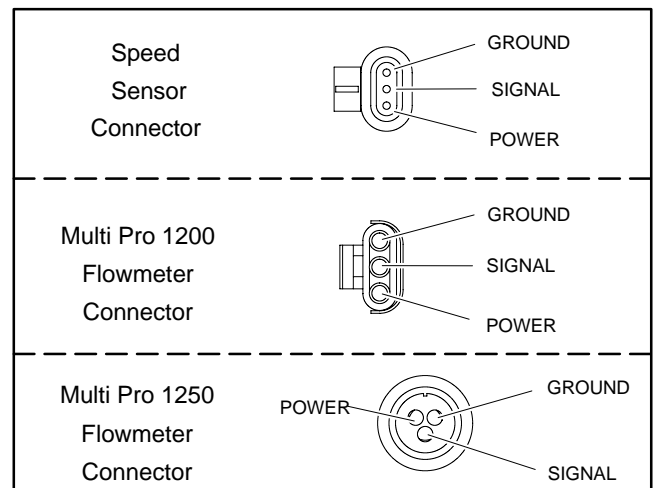

Figure 26
5. At the disconnected wire harness connector, use a small jumper wire to rapidly short ground terminal and signal terminal several times (Fig. 26). As the jumper wire makes contact with these two terminals, the Spray Pro Monitor display value should change.
6. Use a multimeter (DC volt setting) to measure the DC voltage between the disconnected flowmeter wire harness connector terminals (Fig. 26).